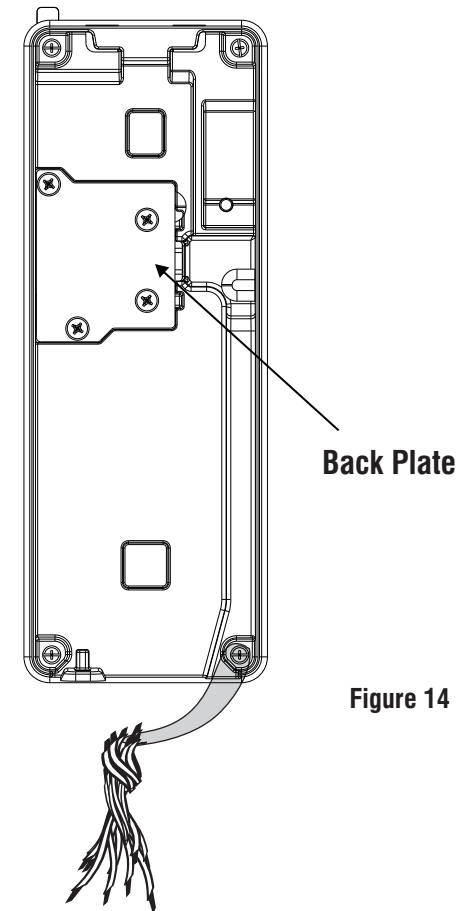

Figure 14
3. Pull out the Cables from the Back Plate hole and lead the cables outside from the bottom opening of COSEC ATOM, as illustrated in **Figure 14**.